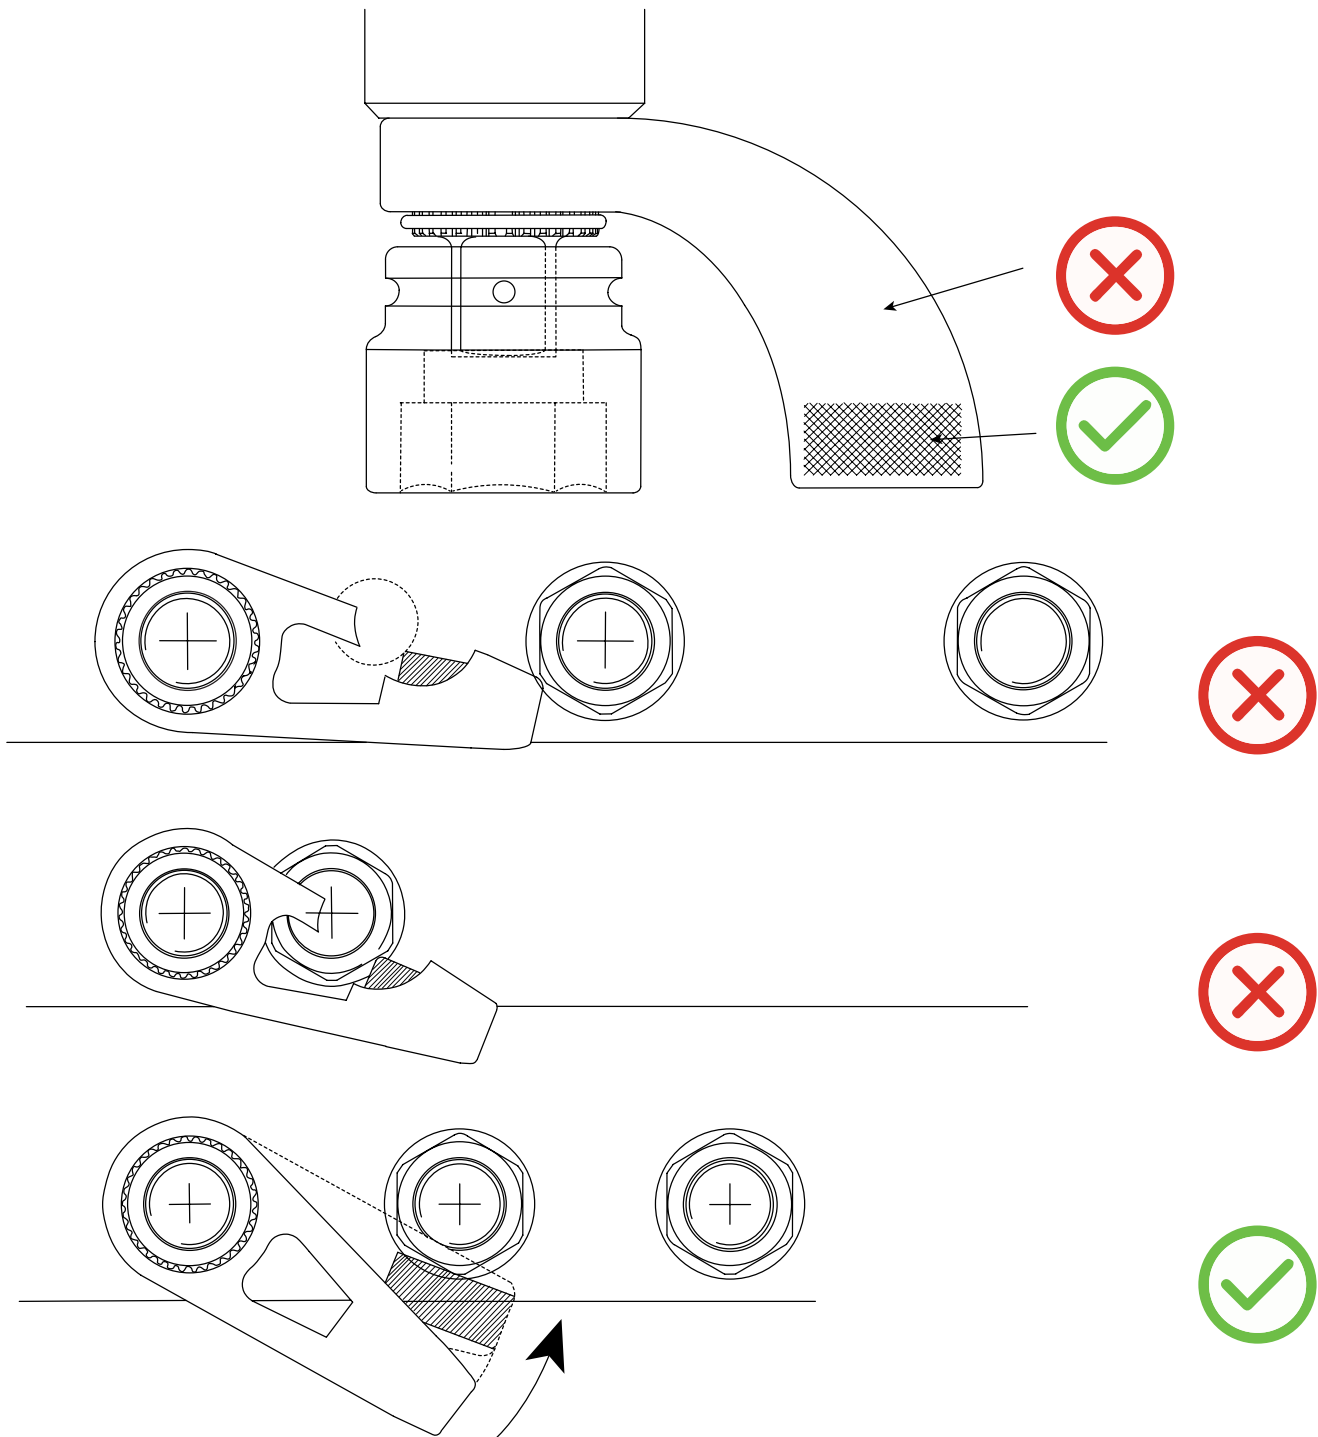

Fig. 2.2. Correct Positioning of a Reaction Arm
- If the reaction arm is not properly supported, it can be damaged. Fig. 2.2 shows the proper and incorrect reaction arm support methods.